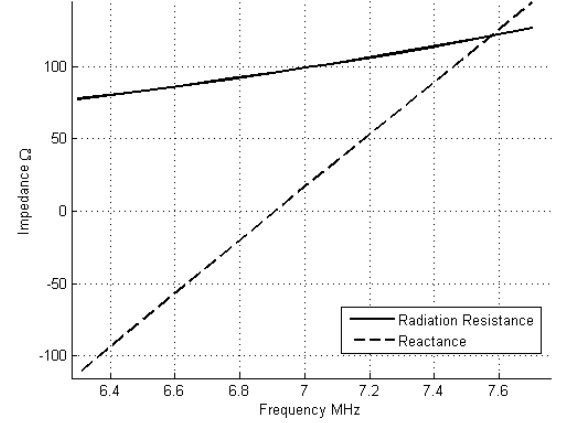

Fig. 8. Impedance versus frequency accounting for ground effects
3) *Effects on Impedance:* After adding in the ground, the antenna's resonance changed from 7 MHz to about 6.9 MHz, as seen in Figure 8.